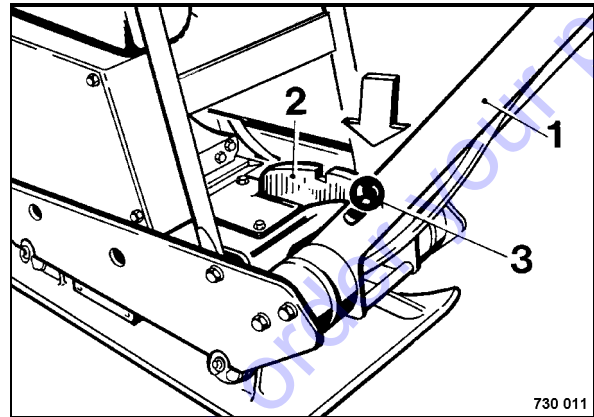

Fig. 17
- Lock steering rod 1 (Fig. 17) with locking lever (3) in the first locking position of notched rail (2).